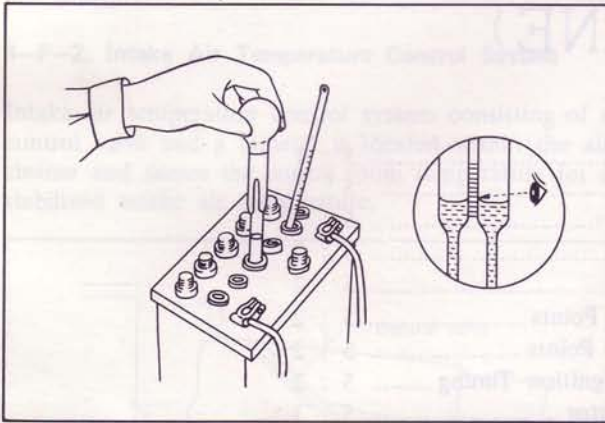

Fig. 5-1 Checking specific gravity
2. Check the specific gravity of the electrolyte with a hydrometer, as shown in Fig. 5-1. If the reading is 1.28 or more, it indicates that the battery is fully charged. If the reading is below 1.22, the battery requires recharging.